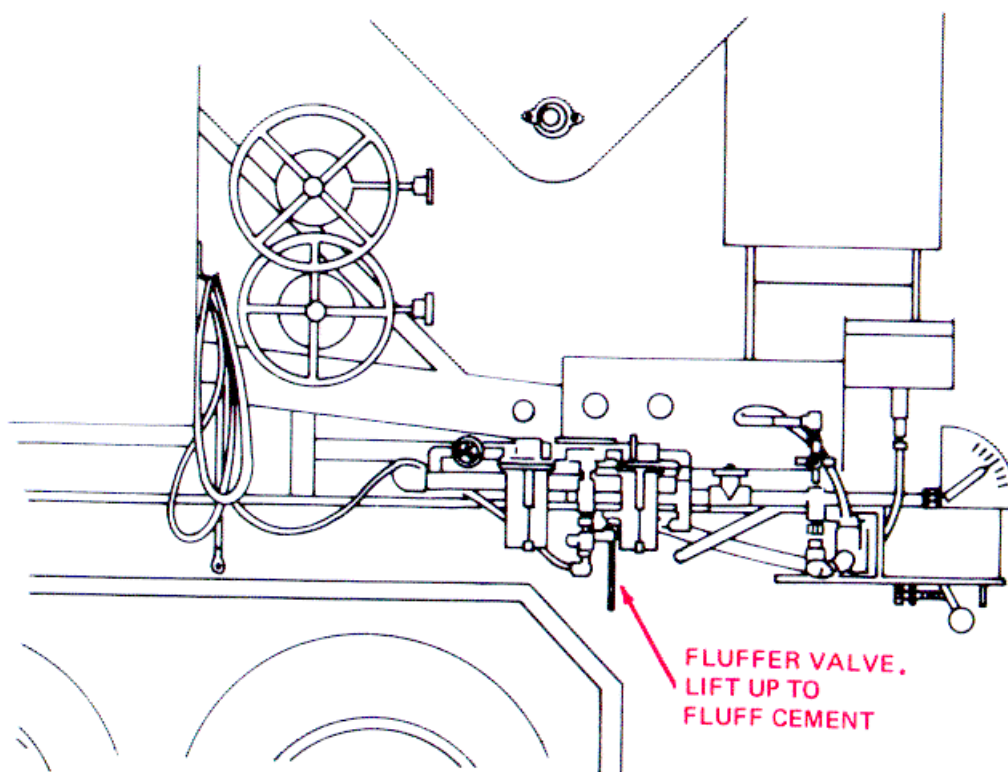

Figure 2-37. Fluffer Control Valve.
- a. Fluff Cement. (See fig. 2-37.) Push the fluffer control valve upward several times. This blows air through the pads in the cement bin and loosens packed cement.